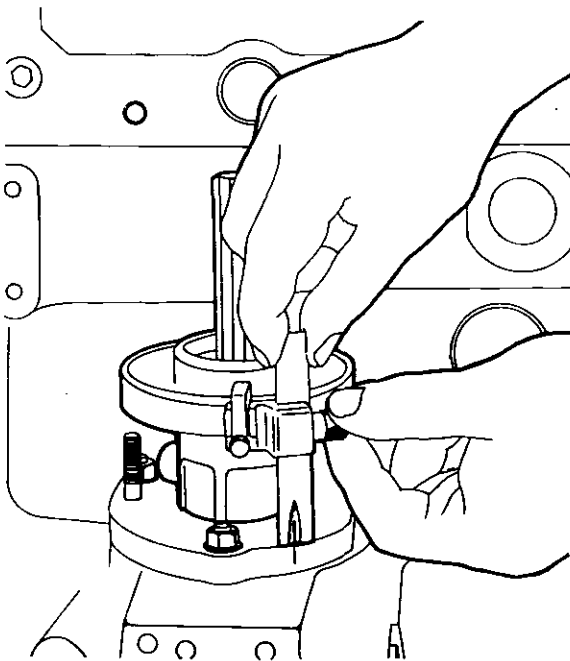

Fig. M.17.
7. Slide slotted pointer downwards so that end of pointer abuts or passes over the fuel pump adaptor plate (see Fig. M.17).